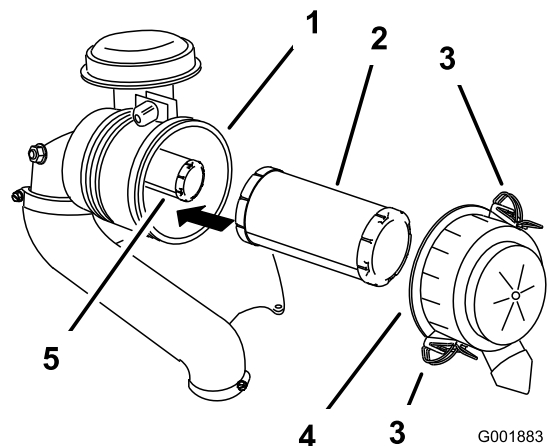

Figure 41
3. Release the latches on the air cleaner and pull the air-cleaner cover off the air-cleaner body (Figure 41).
- Gently slide the primary filter out of the air-cleaner body (Figure 41).
- If you are replacing the inner filter, carefully slide it into the filter body (Figure 41).
- Carefully slide the primary filter over the safety filter (Figure 41).
- Install the air-cleaner cover and secure the latches (Figure 41).